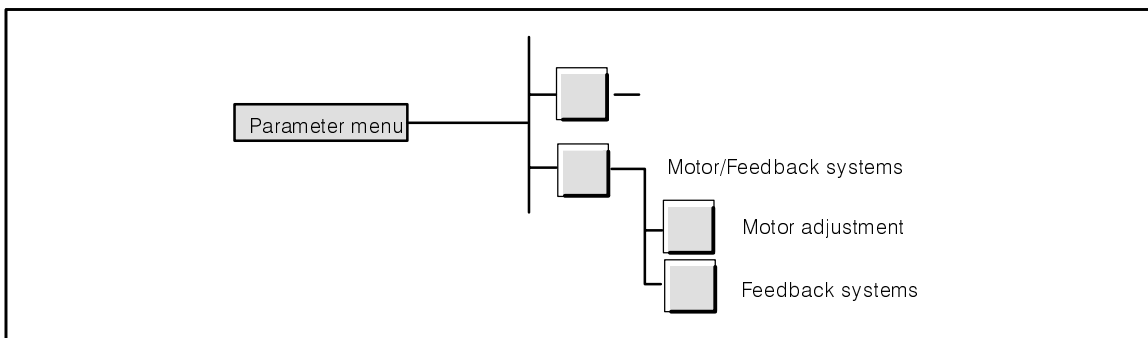

Fig. 5-3 How to find the menus "Motor setting" and "Feedback systems"
- For this change to the parameter menu (see button Fig. 5-3) and select the menu "Motor/feedback system".
Change to the menu "Motor setting" (see Fig. 5-3).